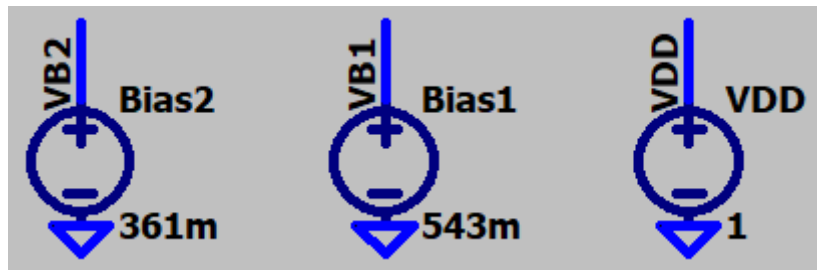

Fig. 3. Bias voltages and VDD
6. Add three DC voltage sources, label them as VDD, Bias1 and Bias2 as shown in Fig. 3. Their values are as following: